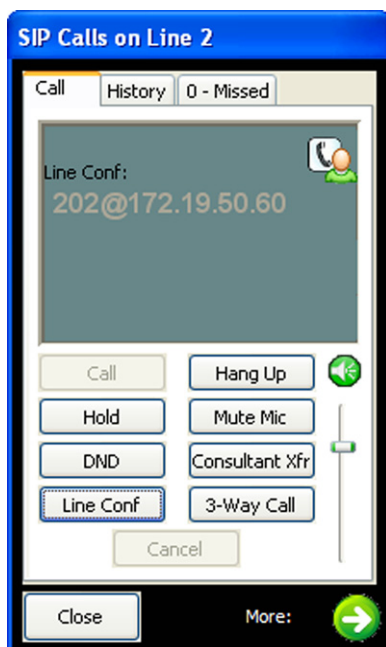

FIGURE 170. SIP Calls Page—Line Conference
The **Line Conf** button is used to join two (2) SIP phone calls already in progress into a line conference. A line already involved in a 3-way call can be included in the line conference. During a line conference, the SIP Calls window border changes to black. An example is shown in Figure 170.